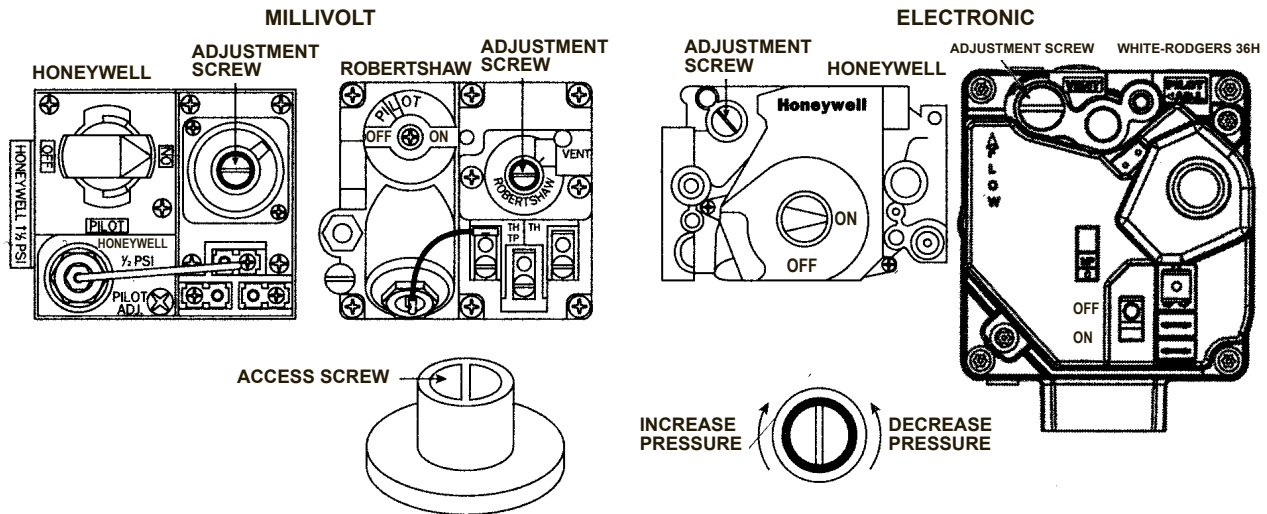

Figure 36: Valve Adjustment Screw
2. Turn regulator adjustment screw clockwise to increase pressure and counterclockwise to decrease pressure. Replace access screw. See Figure 36.